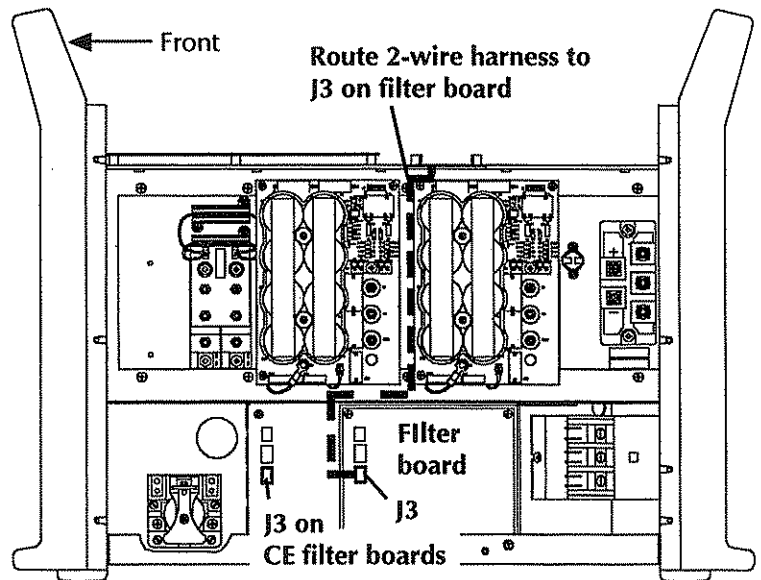

Figure 4 - Two-Wire Harness Feed and Connection
8. Take the 2-wire harness that is attached to the machine interface board, and route it to the filter board as shown in Fig. 4.